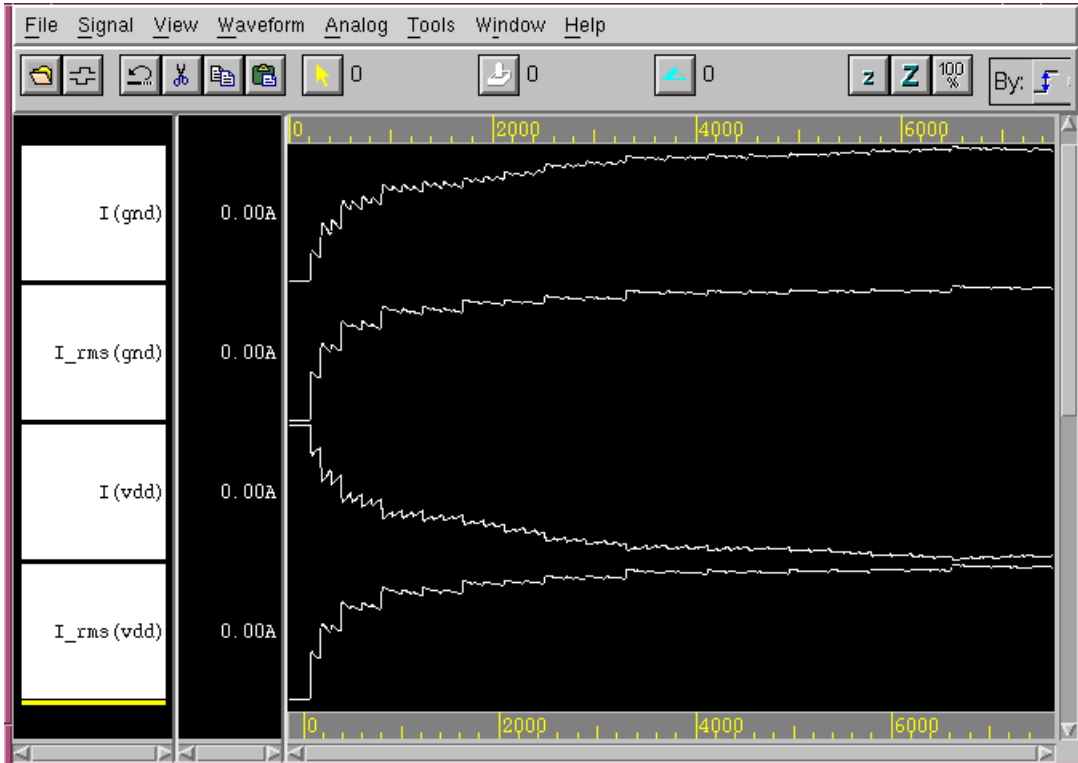

Figure 1 Waveform of basic adder circuit (selected signals)
- 10 Use the **Signal** pull-down menu to select the signals that you want to view (see Figure 1).